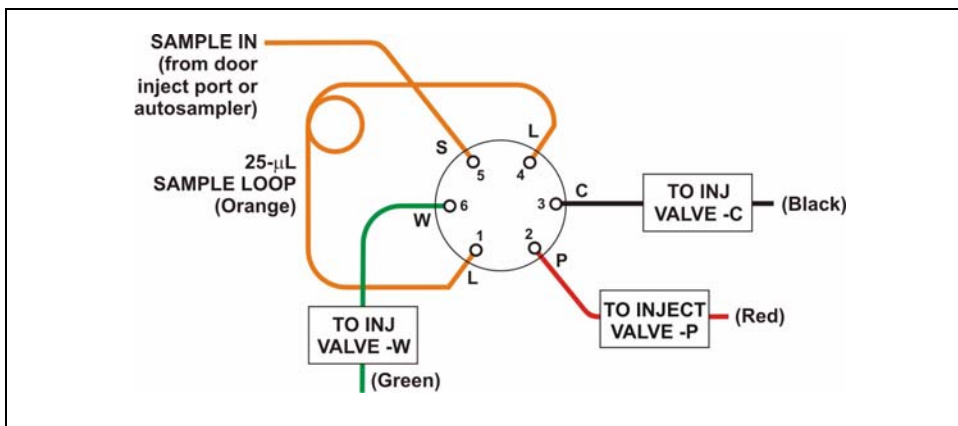

Figure 2-21. Injection Valve Plumbing
Figure 2-21 shows the injection valve connections. The injection valve is plumbed at the factory with all tubing and fittings for connection to the pump, injection port, column, and waste. A 25- μ L PEEK sample loop (P/N 042857) is installed between ports L (1) and L (4). Dionex offers